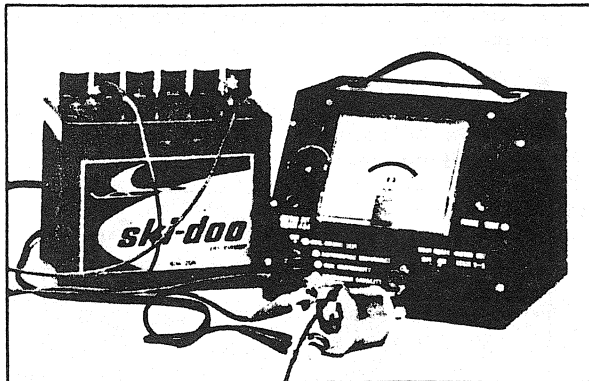

FIGURE 13
- With a 12 volts battery, place two (2) jumpers leads on battery posts. (Fig. 13).